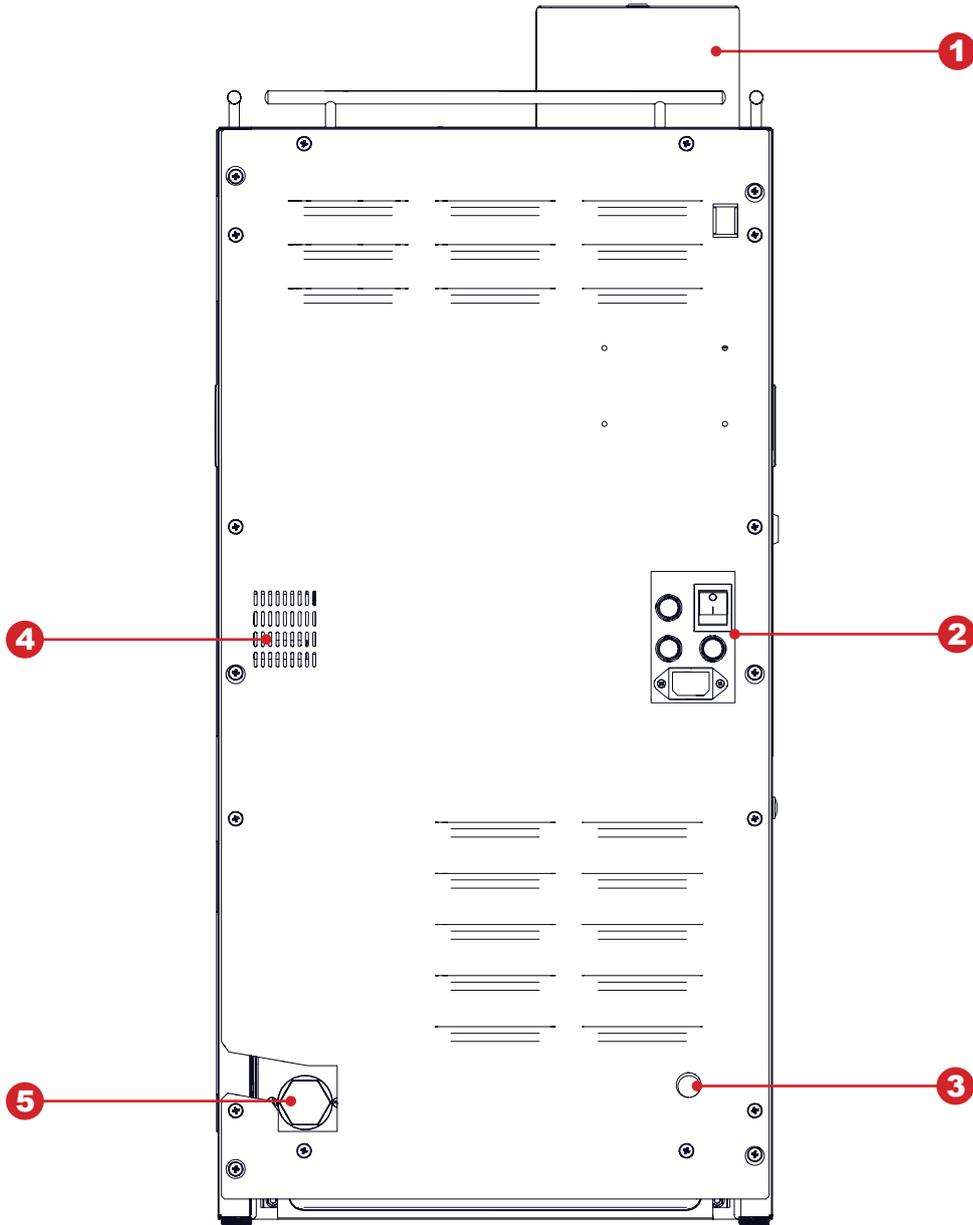

Fig. 5.4
The vending machines can also be connected directly to the water supply mains, taking into consideration the applicable laws of the country of use. The inlet nozzle for connection to the water supply mains is situated on the rear panel of the vending machine (see fig.5.4) and comprises of a threaded connector of diameter 3/4". The machine is connected using a pipe, which can handle the pressure of the water supply and which is suitable for use with food products (minimum inner diameter of 6mm).
- Set the switch on the switch board of the machine to position **[O/OFF]** (see fig.5.4 pos.2);
- Set the switch on the switch board of the machine to position **[I/ON]** (see fig.5.4 pos.2).
For water supply connection we have a silicone water pipe, which comes with the package (see fig.4.2 pos. 5), which from one end is connected to water inlet (see fig.5.4 pos.3) and from the other end of the tube is immersed into the source of water (canister/bottle).